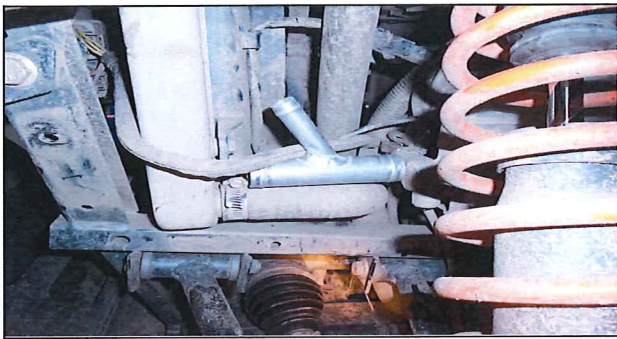

Figure 6a
2. Position the Y Connectors as shown in Figure 6a & 6b.
3. Cut the radiator hoses as shown in Figure 6a and 6b.